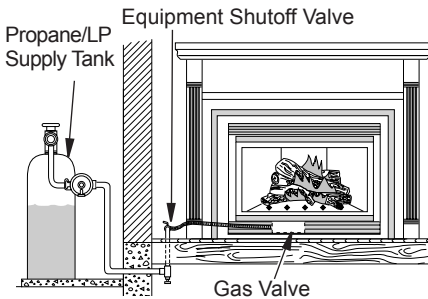
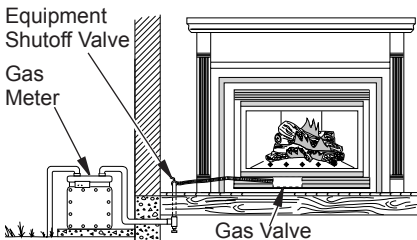

Figure 52 - Checking Gas Joints for Propane/LP Gas Fireplace
Figure 53 - Checking Gas Joints for Natural Gas Fireplace
3. Check all joints from propane/LP supply tank or gas meter to equipment shutoff valve (see Figure 52 or Figure 53). Apply noncorrosive leak detection fluid to all joints. Bubbles forming show a leak. Retighten all fittings
4. Check all joints from equipment shutoff valve to gas valve (see Figure 52 or Figure 53). Apply noncorrosive leak detection fluid to all joints. Bubbles forming show a leak. Retighten all fittings